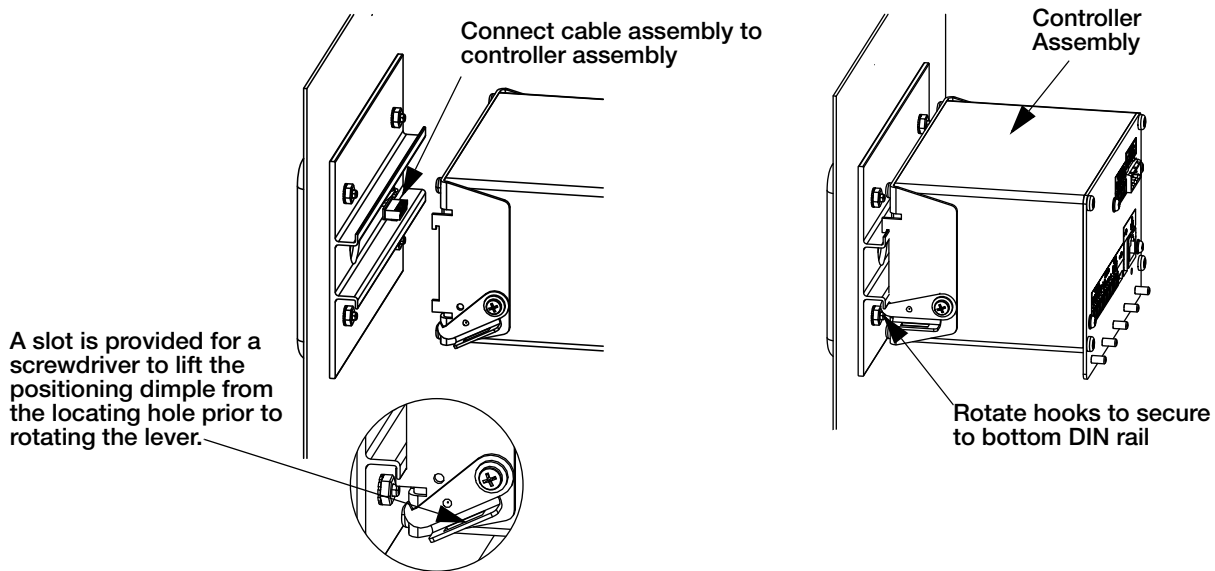

Figure 6. Install Controller Assembly
8. Place the controller assembly on the DIN rail as shown in Figure 6.